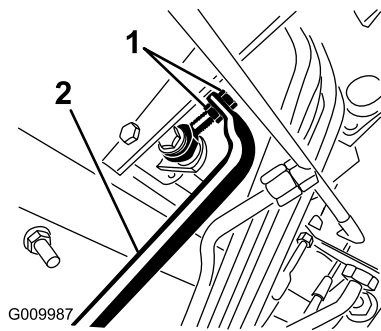

Figure 73
- Adjust jam nuts on pump rod end to move pump control tube forward to eliminate forward creep or rearward to eliminate rearward creep (Figure 73).